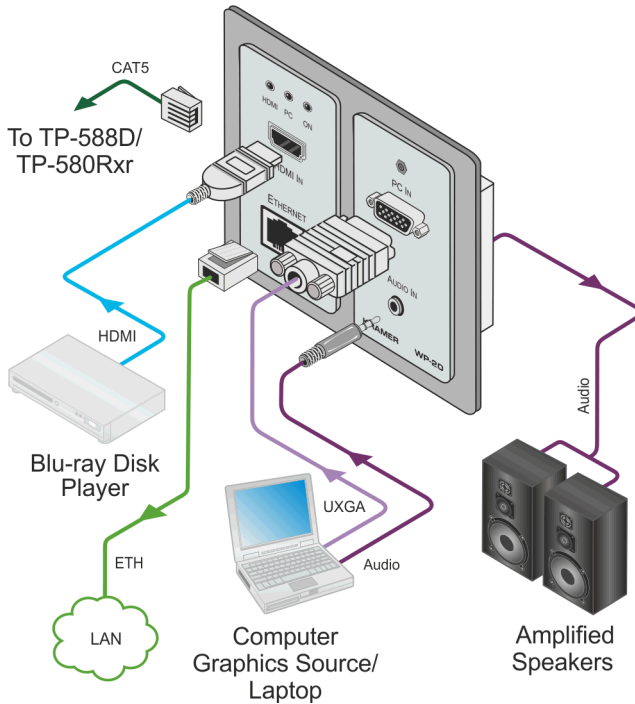

Figure 6: Connecting the WP-20 Wall Plate
To connect the WP-20, as illustrated in the example in Figure 6:
7. If the device is not connected to a PoE provider, connect the power adapter to the **WP-20** and to the mains power, (not shown in Figure 6).